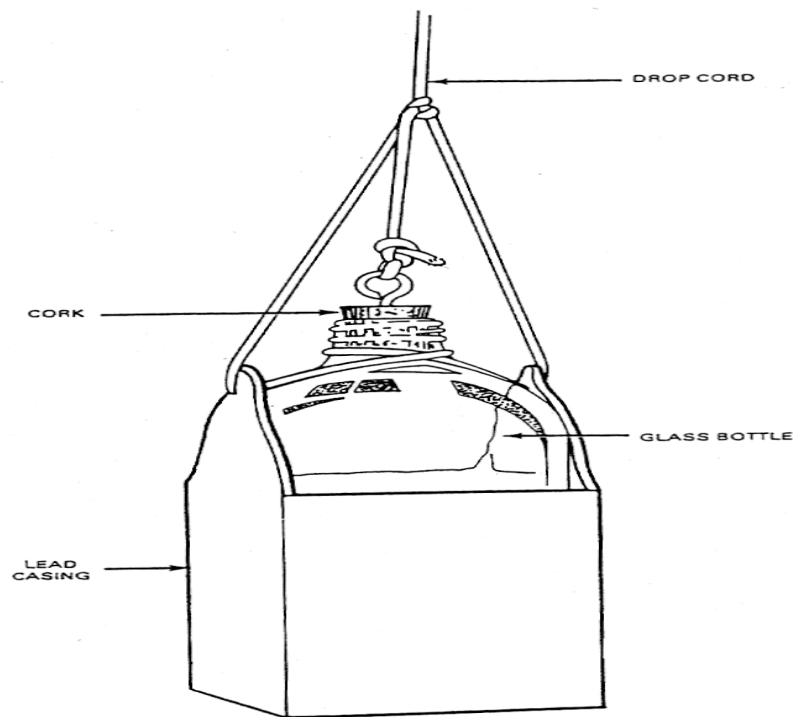

Figure 3-26. Weighted bottle plug sampler
- **Weighted Bottle Plug.** The weighted bottle plug sampler (Figure 3-26) is a glass bottle seated in and tied to a metal holder. This sampler is used in the same way as the weighted beaker sampler.